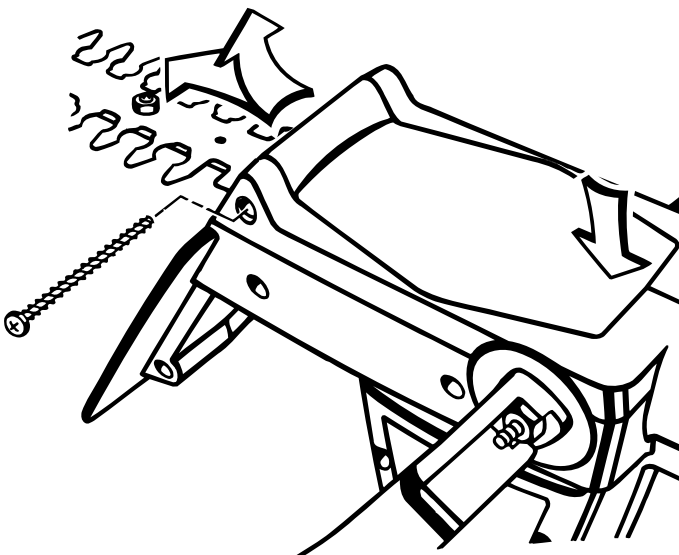

Fig. 10
1. Remove blade cover screw (Fig. 10).